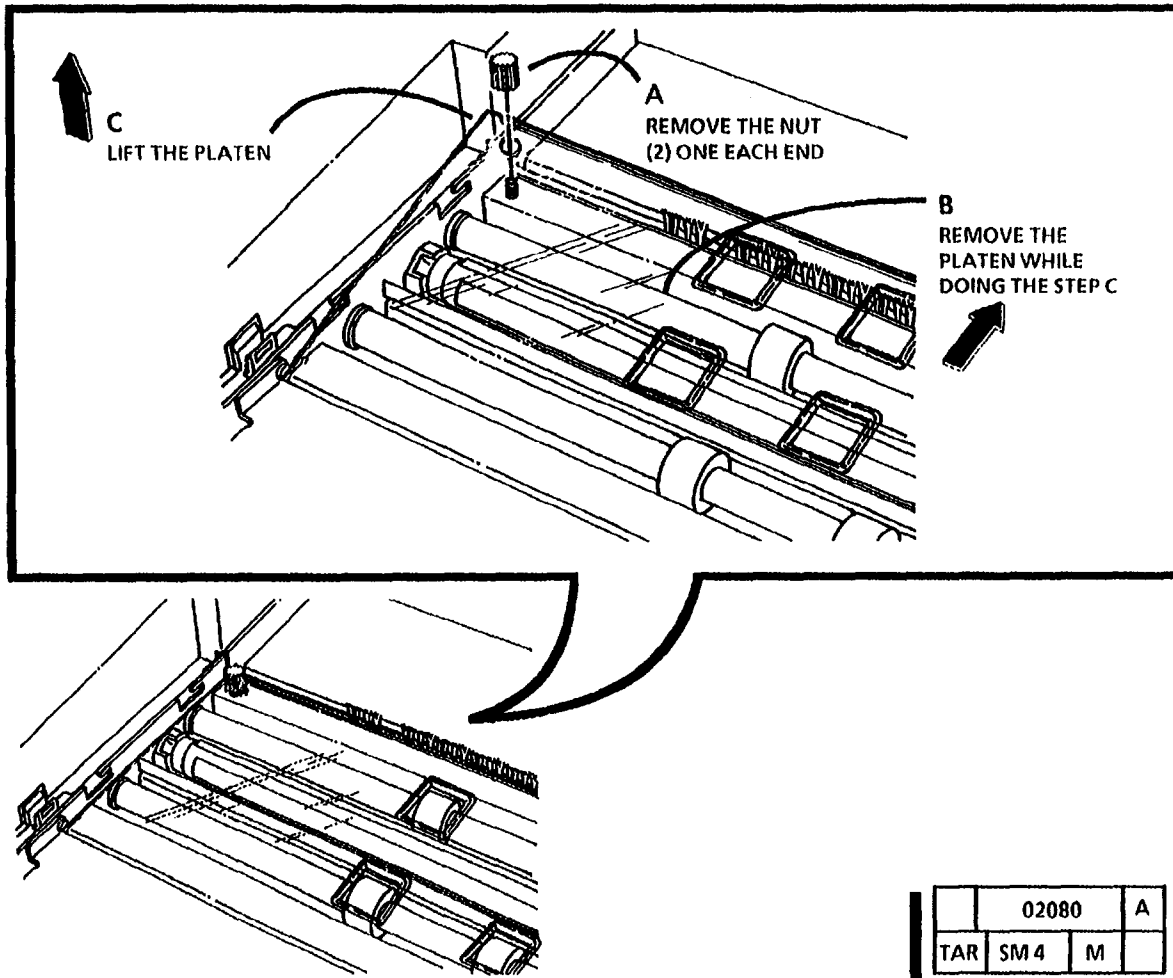

Figure 2. Remove the Platen
7. (Figure 2): W/ Tag/MOD 2: Remove the Platen.